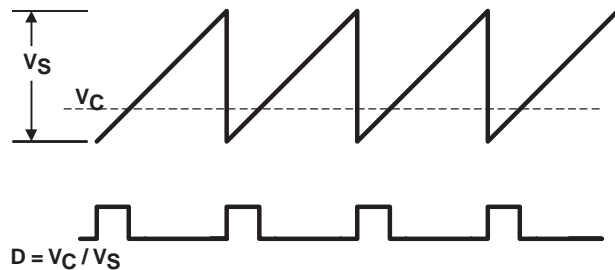

Figure 9
Voltage-mode buck-type converters are typically compensated using Type III networks. Since the TPS4005x uses voltage feedforward control, the gain of the PWM modulator with voltage feedforward circuit must be included. The modulator gain is described in Figure 9, with V_{IN} being the minimum input voltage required to cause the ramp excursion to cover the entire switching period as described in equation (19).